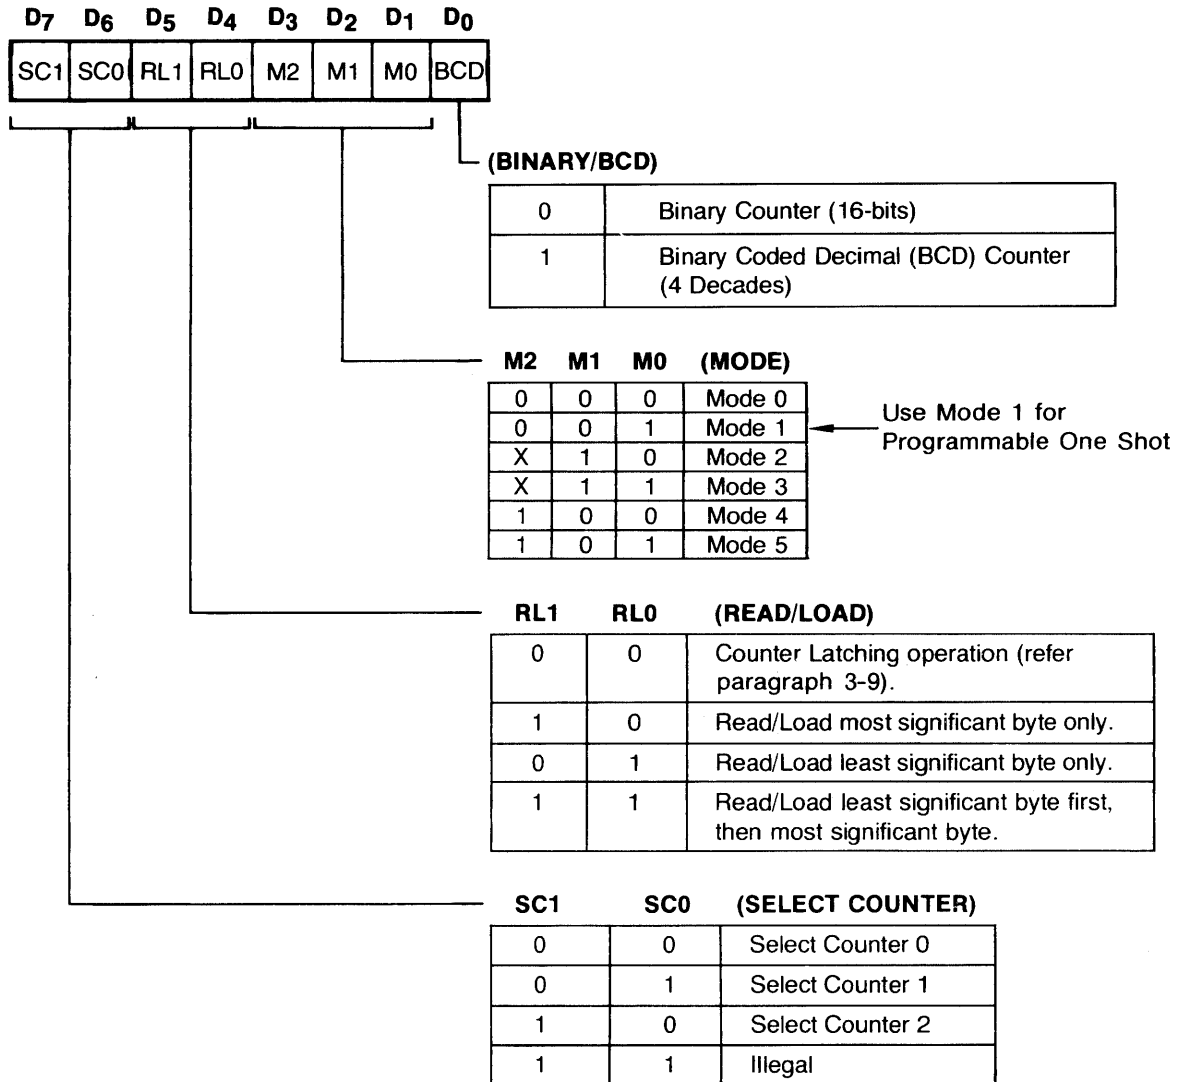

Figure 3-1. PIT Control Word Format
- a. A mode control word (figure 3-1) is written to the control register for each individual counter.
The mode control word (figure 3-1) does the following:
The count mode selected in the control word controls the counter output. As shown in figure 3-1, the PIT chip can operate in any of six modes:
- a. Write a mode control word for counter 0 to 00D6. Note that all mode control words are written to 00D6, since the mode control word must specify which counter is being programmed. (Refer to figure 3-1.)